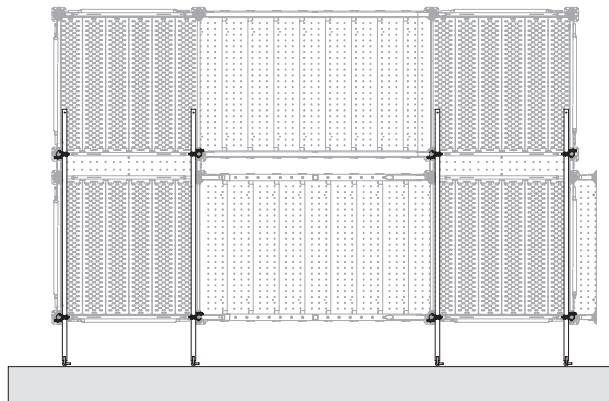

Fig. B5.03
2. Fit Wall Tie UWT to the wall, e.g. with eyebolts M12 and dowels or equivalent connection. (Fig. B5.03)